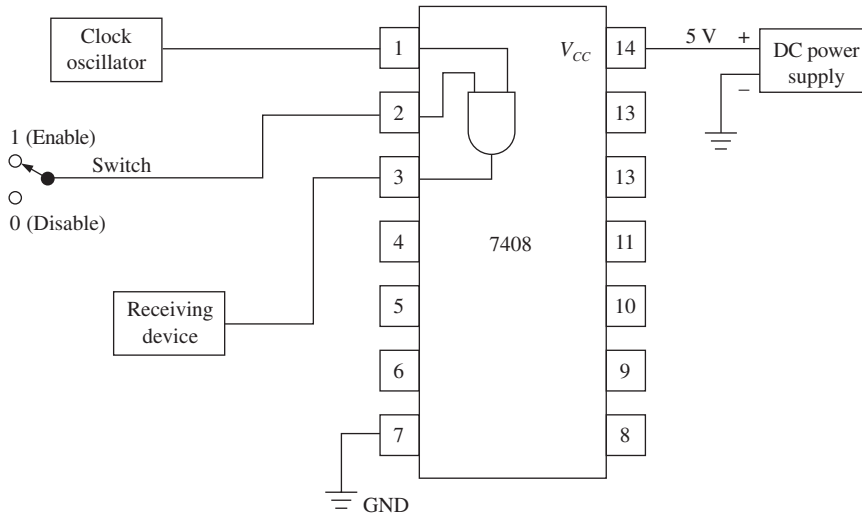

Figure P22
- C T** 22. The clock enable circuit shown in Figure P22 is not working. The enable switch is up in the enable position. A logic probe is placed on the following pins and gets the following results. Find the cause of the problem.